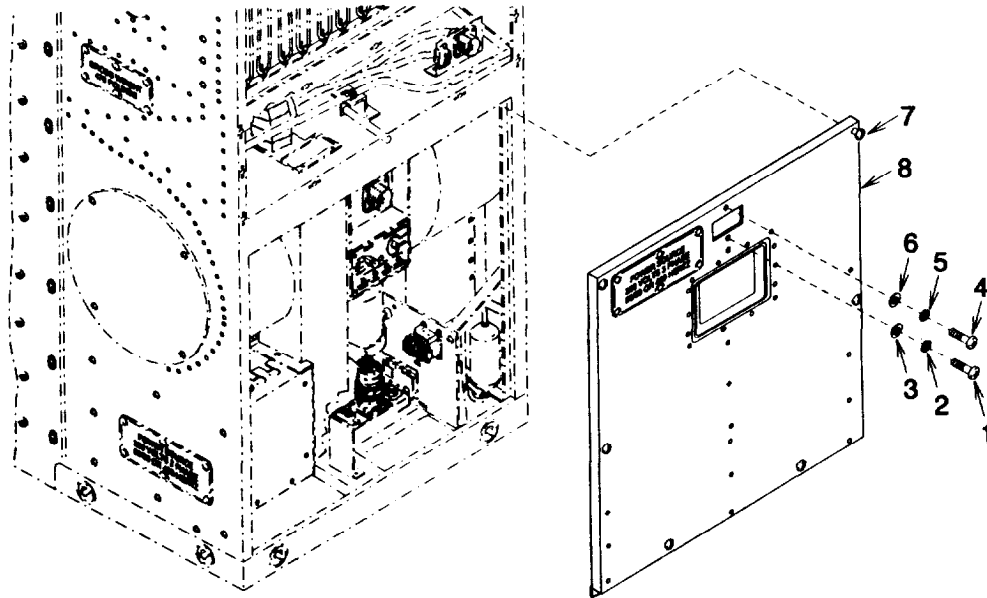
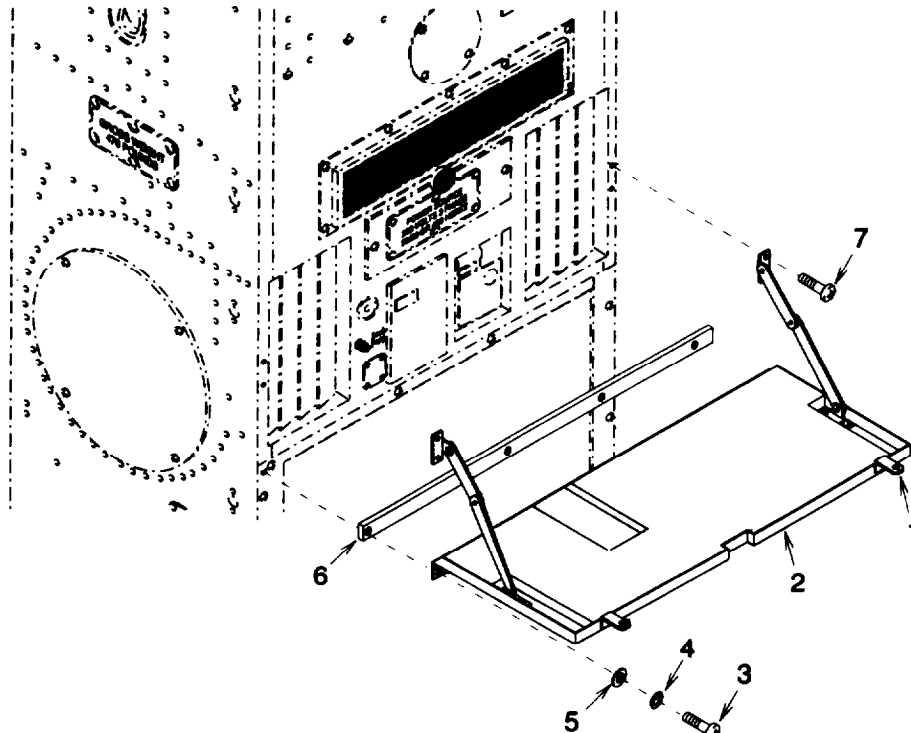

Figure 3-16. Lower Front Panel
Figure 3-17. Condenser Discharge Air Deflector Door
(7) Lower Front Panel.
- (a) Remove screw (1) Figure 3-16, lock washer (2), and flat washer (3). Discard lock washer.
- (b) Remove screw (4), lock washer (5), and flat washer (6). Discard lock washer.
- (c) Loosen seven captive screws (7) and remove cover (8).
(8) Condenser Discharge Air Deflector Door.
- (b) Loosen turnlock fasteners (1) Figure 3-17 and open door (2).
- (c) Remove four screws (3), lock washers (4), flat washers (5), and spacer plate (6). Discard lock washers.
- (d) Remove four screws (7) and door (2).
- (b) Install seven screws (3) and flat washers (4).
- (c) Install 11 screws (1) and flat washers (2).
- (7) Lower Front Panel.
- (a) Install cover (8) Figure 3-16 and tighten seven captive screws (7).
- (b) Install screw (4), new lock washer (5), and flat washer (6).
- (c) Install screw (1), new lock washer (2), and flat washer (3).
- (a) Install door (2) Figure 3-17 and four screws (7).
- (b) Install spacer plate (6), four screws (3), new lock washers (4), and flat washers (5).